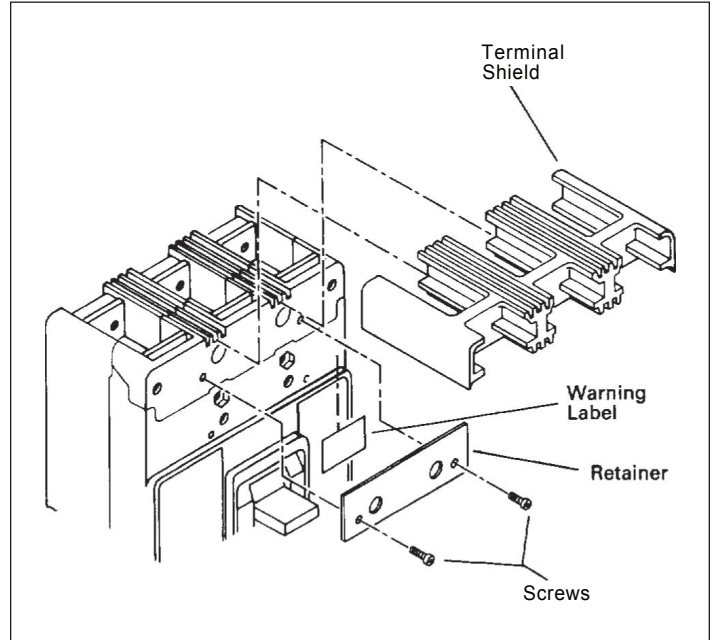

Figure 5. Installation of Terminal Shields and Warning Label.
Step 10. When step-type terminals (Cat. No. TA603LD or TA401LD) are used, terminal shields (supplied with terminals) must be installed on the circuit breaker (see Figure 5) and secured using retainer and screws included with the terminal shield kit. Warning label supplied with the kit must be attached to the circuit breaker cover.